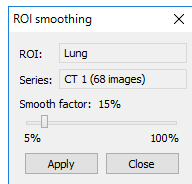

Figure 238 – ROI smoothing dialog
2. The **ROI smoothing** dialog is then displayed (see Figure 238).